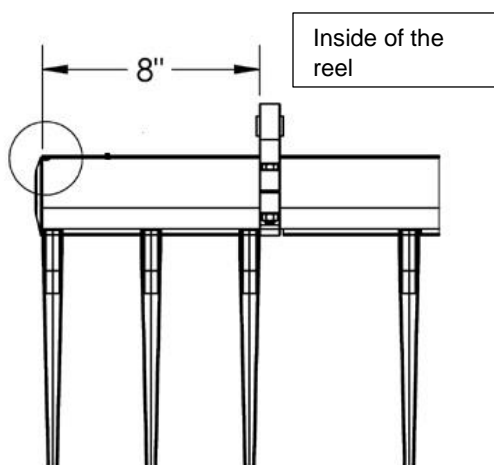

Figure 270
8. On the inner end of the reel the outside clamp should be positioned to 8" from the end of the reel tube. Figure 270.